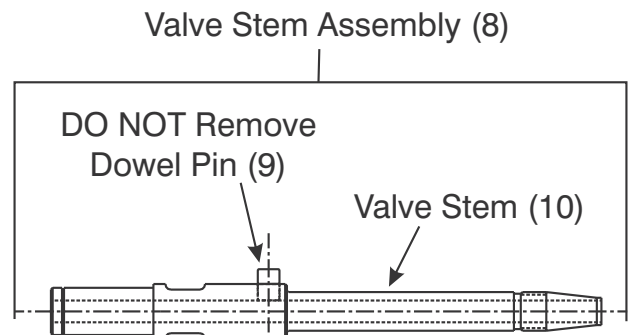

Figure 8-19. Valve Stem and Pin
11. Refer to Figure 8-19. Do not remove the Dowel Pin (9) from Valve Stem (8). If either are damaged, replace the entire Valve Stem Assembly (8).